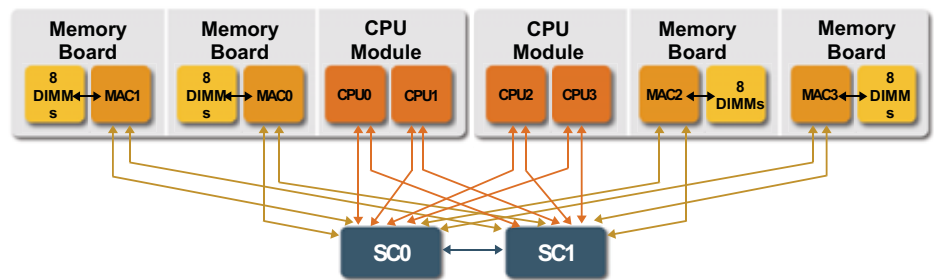

Figure 8. Block diagram of a Sun SPARC Enterprise M4000 system PSB.
The PSB also contains two or four System Controller (SC) Application Specific Integrated Circuits (ASICs) that are the communication hubs of the system. The SCs connect CPUs, memory controllers, and I/O systems. On the Sun SPARC Enterprise M8000 and M9000 servers, the four System Controllers also provide connectivity to other system boards by connecting to the cross-bar switch that provides a high bandwidth and low latency data backbone. Figure 8 shows a block diagram of a Sun SPARC Enterprise M4000 server PSB.
CPUs and memory are connected by the SC on their PSBs as illustrated in Figure 8 on page 10. A CPU can only operate with memory that is on the same XSB. A CPU on an XSB with no memory cannot be used. Similarly, memory on an XSB without a CPU cannot be used. In Uni-XSB mode, a CPU can utilize all of the memory on the same board.